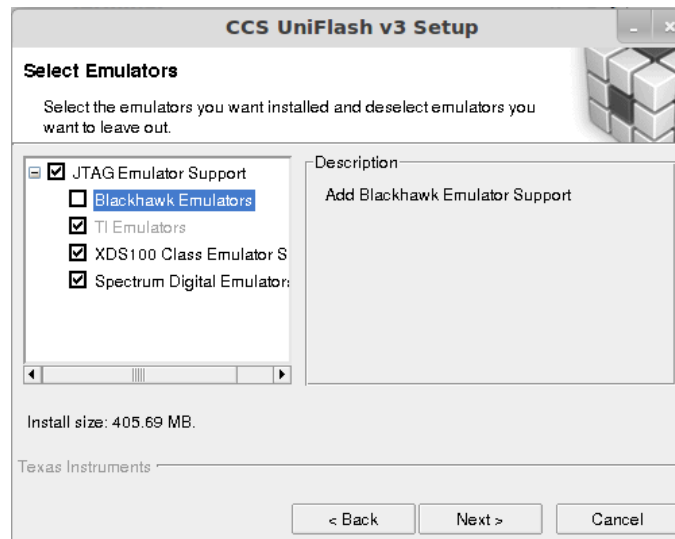

Figure 10. UniFlash Installation
3. Make sure TI emulators, XDS100 class and Spectrum Digital emulator support are installed (see Figure 10).